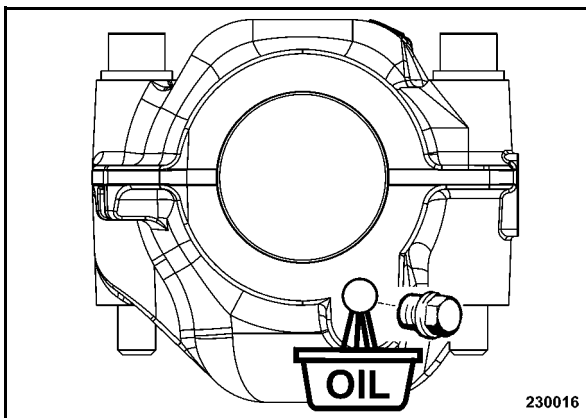

Fig. 53
- Unscrew plug (Fig. 53), catch old oil.